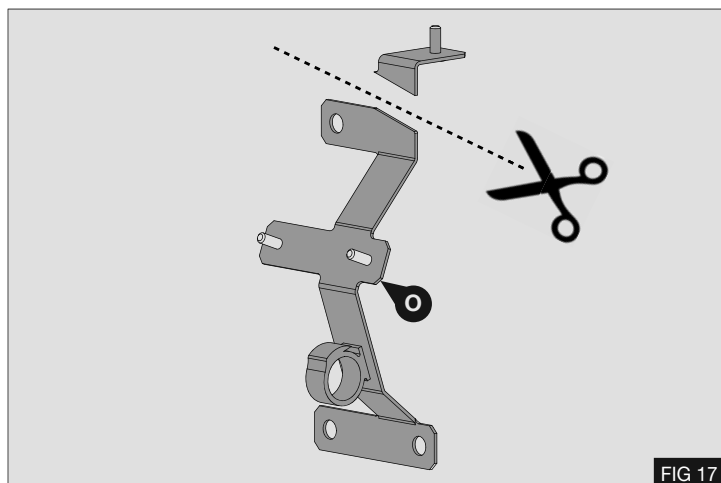

FIG 17
- Modify hose support (O) by removing the section indicated.
- Fig 17